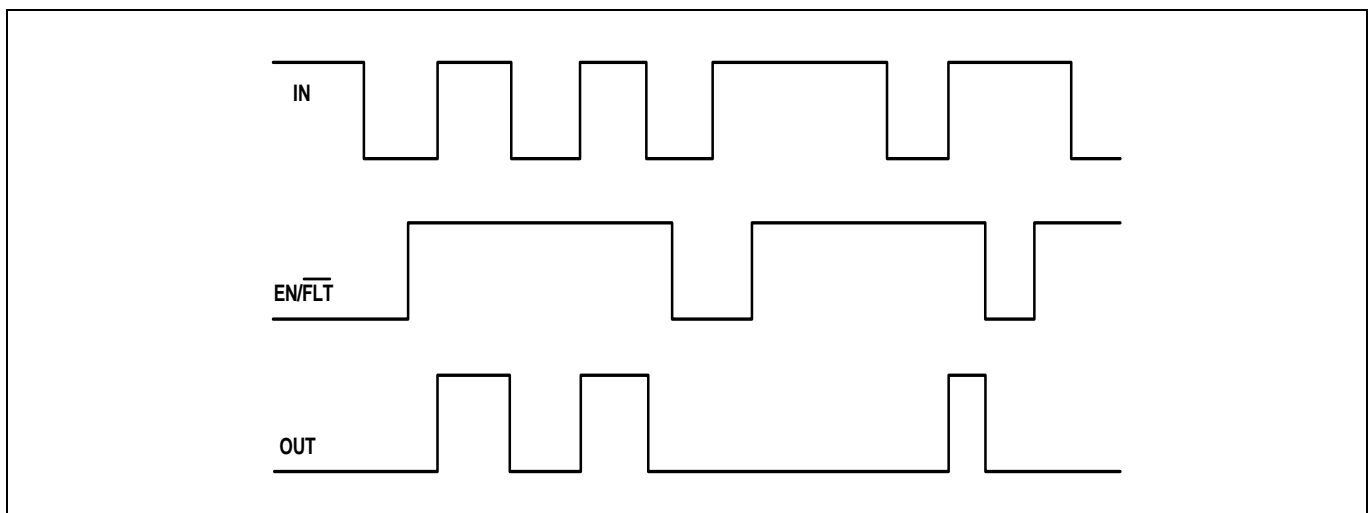

Figure 13 Input/output/enable pins timing diagram
The relationships between the input (IN), output (OUT) and enable (EN/ $\overline{\text{FLT}}$ ) signals of the 1ED44175N01B are illustrated below in Figure 13.